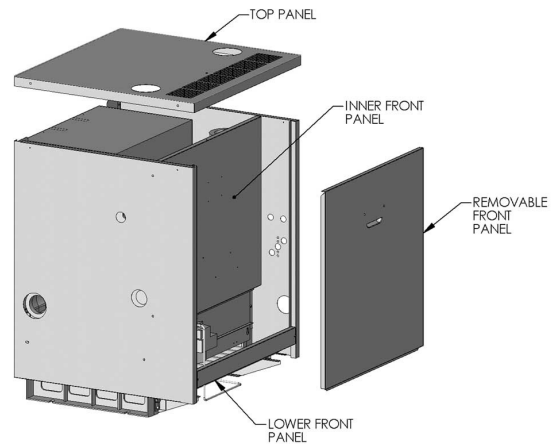

Figure 2.6: Jacket Panel Attachment
5. Position the Inner Front Panel between the side panels and align the mounting holes on the side flanges with the clearance holes on the side panels. Attach with four #10 x 1/2" sheet metal screws provided. See Figure 2.6.
6. Attach the Lower Front Panel to the bottom front of the side Jacket Panels with two #10 x 1/2" sheet metal screws. See Figure 2.6.
8. Position the Top Jacket Panel so that the flanges overlap the Side Jacket Panels and the air louvers are at the front of the boiler. Attach with six #10 x 1/2" sheet metal screws. See Figure 2.6.